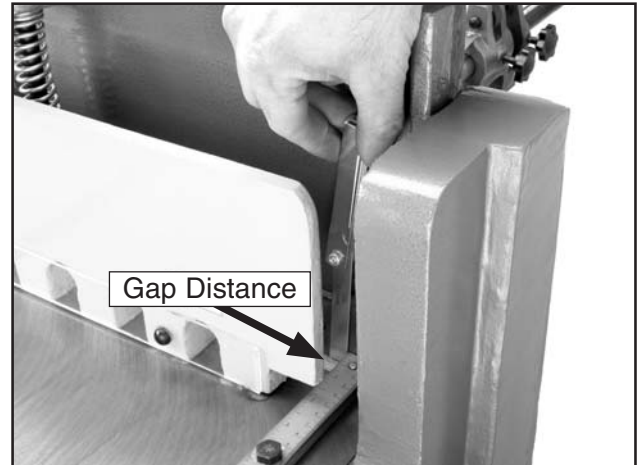

Figure 12. Measuring gap between blades.
6. Turn the table adjustment screws to move the fixed blade away from the moving blade so you have a gap of 0.002". Check this measurement with a feeler gauge as shown in **Figure 12**.